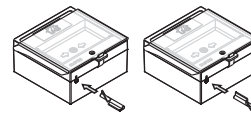

Fig.1
1. Insert the spiral end of the key into the opening on the bottom side of the FD3050 (Fig.1) and press-to-end. The elastic element should be released.
2. Place the flat end of the key into the same opening (fig.1) and press to end. The elastic element should return to its initial position.